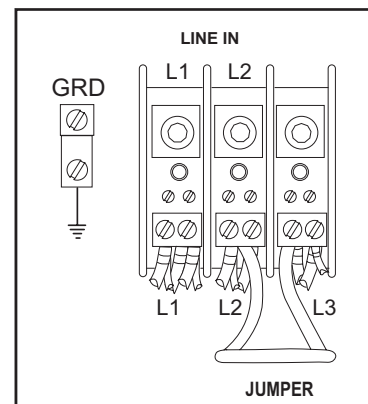

Fig. 13 - Single Phase Power Connection 208-240V/60/1
3. Connect the jumper wire (shipped inside) between L2 and L3 on the output side of the main terminal block (see Fig. 13).